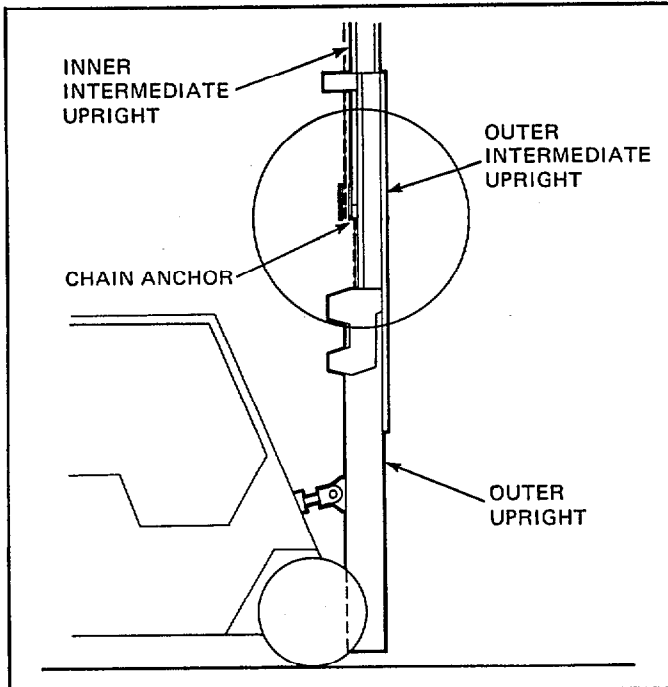

Figure 46. Exposing the Chain Anchors
1. Raise the mast until the chain anchors on the inner intermediate are exposed. See Figure 46. Attach a C-clamp to the side of the mast you are not working with. See Figure 46 below.